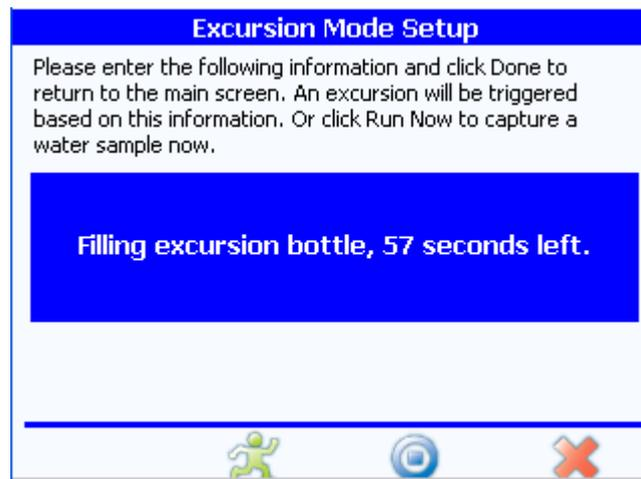
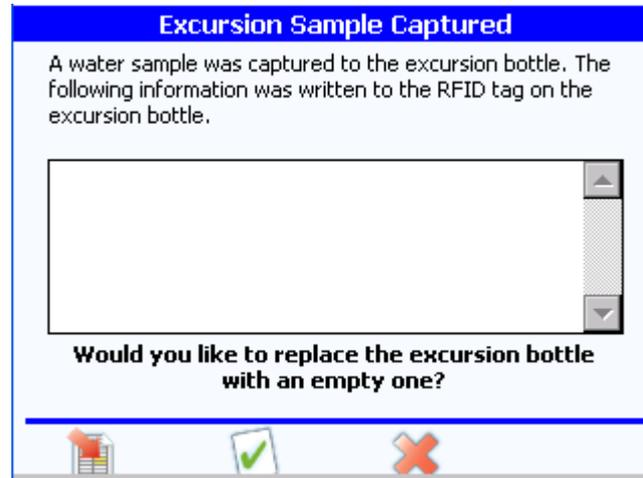

Figure 6-28 Bottle filling dialog box
Figure 6-29 Excursion sample captured dialog box
- **Run now icon** immediately draws a water sample from the online source into the excursion bottle and opens the bottle filling dialog box. See Figure 6-28.
- 4) When an excursion occurs, an excursion sample captured dialog box opens, and a validation occurs. See Figure 6-29.
- **Run now icon** immediately draws a water sample from the online source into the excursion bottle and opens the bottle filling dialog box. See Figure 6-28. Once the bottle has been filled, the excursion captured dialog box appears. See Figure 6-29, page 111.